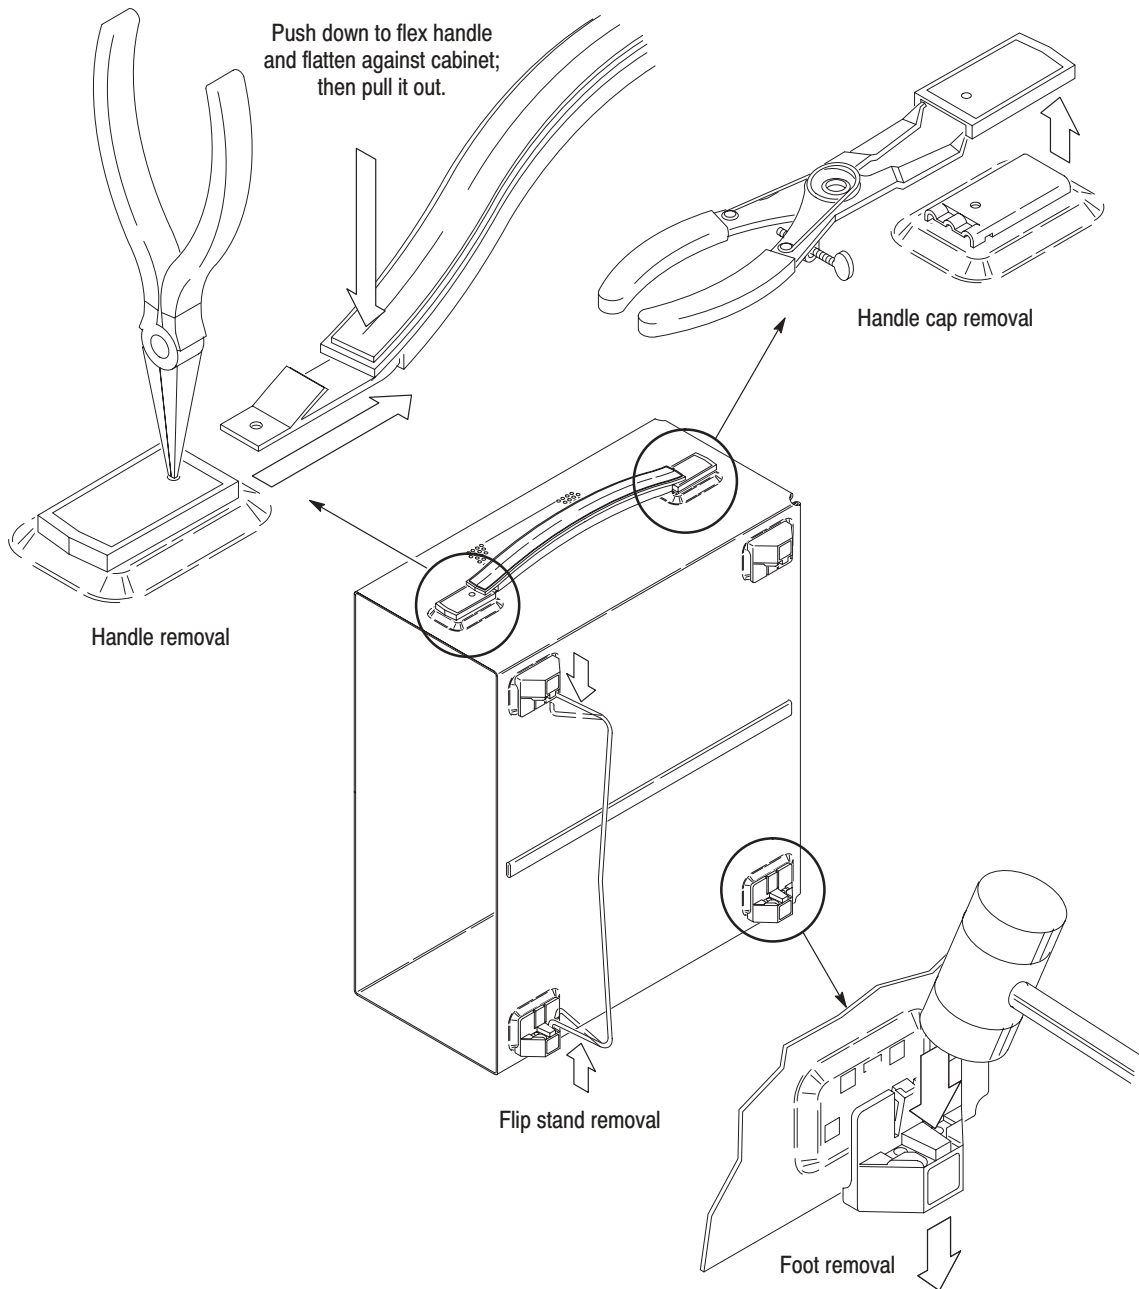

**Figure 3: Trim ring removal**
- c. *Remove the standard trim ring:* Grasp the trim ring by its top edge; then pry it up and lift it forward to snap it off of the front subpanel. Set the trim ring aside face down on the work surface. See Figure 3.